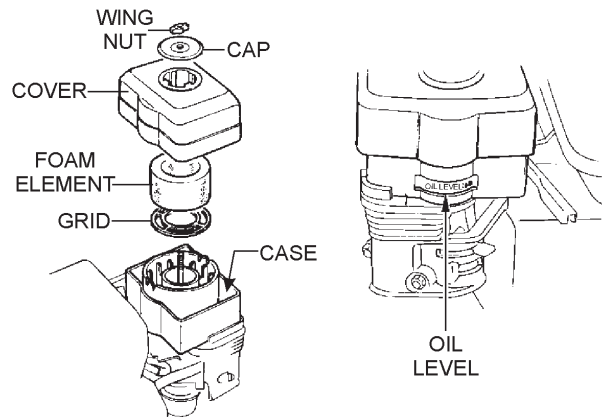

Figure 34. Engine Air Cleaner (Oil Bath)
1. Remove the wing nut (Figure 34), and remove the air cleaner cap and cover.